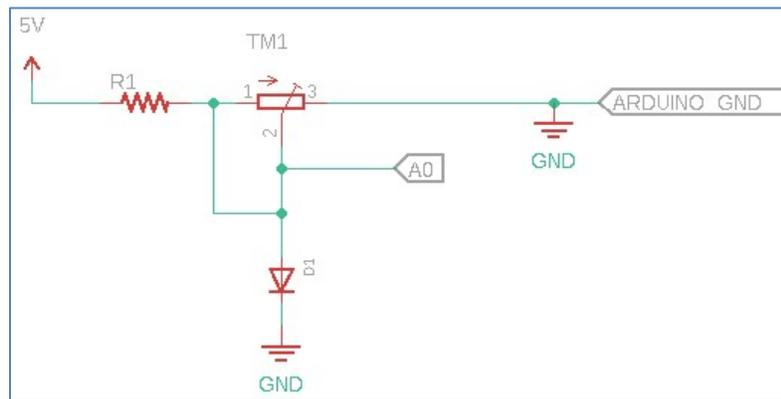

Figure 6: Schematic for resistor and diode in series
1. Follow the schematic in figure 6 to connect the diode in series with the resistor to the microcontroller